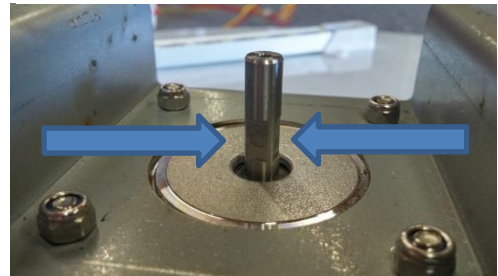

Figure 5: Flat surfaces on motor shaft
3. Pull the set collar off and note the position of the two flat slots on the motor shaft. (See Figure 5)